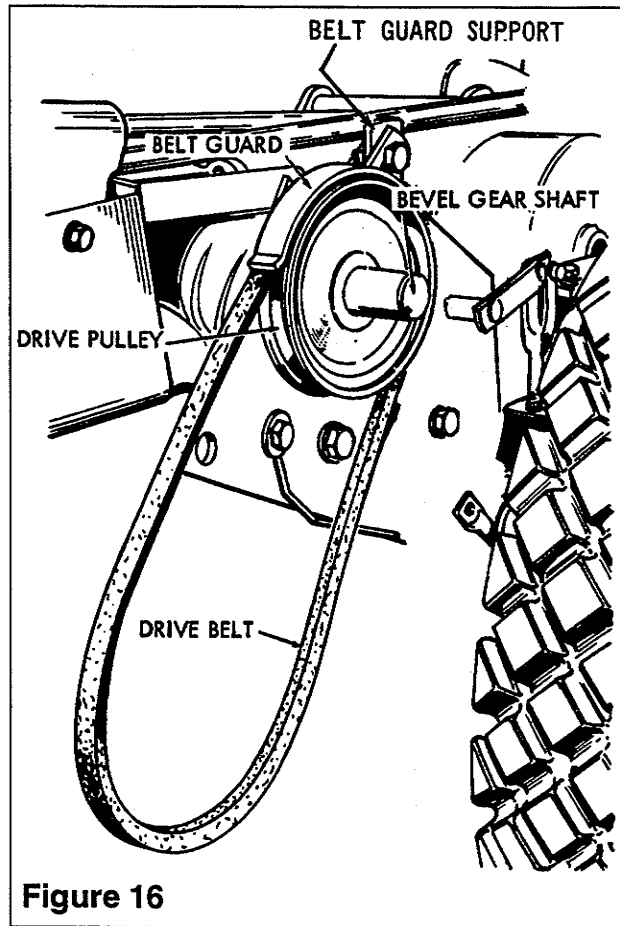

Figure 16
1. Mount Drive pulley to shaft of bevel gear assembly (See Figure 16) and secure in place with key and set screw. Hub of Drive pulley is to face inward. Place drive belt on Drive pulley and mount belt guard support to inside surface of side plate nearest drive pulley. See Figure 20 for mounting bolt location. Attach the belt guard to the guard support as shown in Figure 16. Allow approximately $\frac{3}{16}$ " clearance between belt and guard.